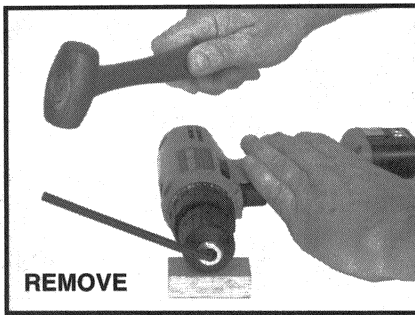

Fig. 9
5. Place the short end of a large allen wrench ($\frac{1}{4}$ " or larger) into the chuck. Align wrench flats with chuck jaws and tighten chuck securely. While supporting chuck on a solid surface, position allen wrench to left (see Fig. 9) and strike wrench a sharp blow with a hammer to loosen chuck. Turn chuck counterclockwise to remove.